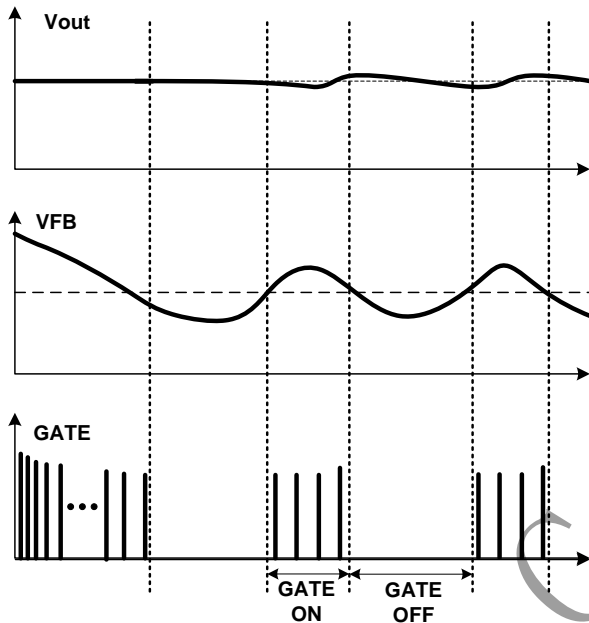

Fig.5
■ When zero or very light load conditions, the IC enters into burst mode. In the burst mode (as illustrated in Fig.5), the valley locking counting number is fixed at 8. In this way, a small standby power can be achieved.
When the loading is very small, the system enters into burst mode. When VFB drops below VFB\_min\_duty, SF5773S will stop switching and output voltage starts to drop, which causes the VFB to rise, as shown in Fig.5. Once VFB rises above VFB\_min\_duty, switching resumes. Burst mode control alternately enables and disables switching, thereby reducing switching loss in standby mode.